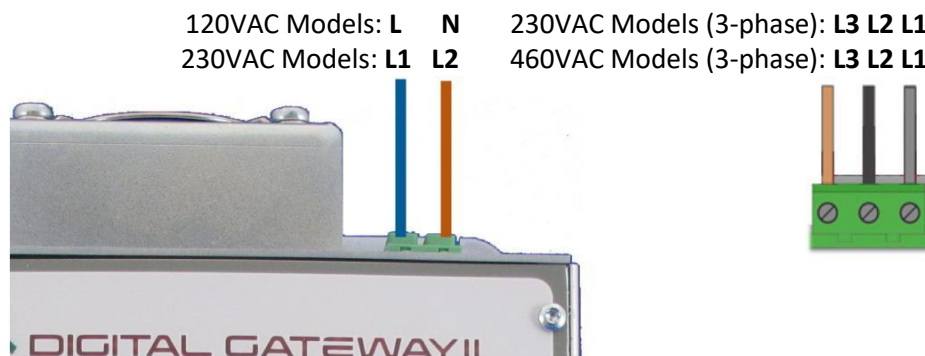

Figure 6: Mains Voltage Connection
- Connect the mains voltage to the terminal block at the top right of the DGII® as indicated in Figure 6.